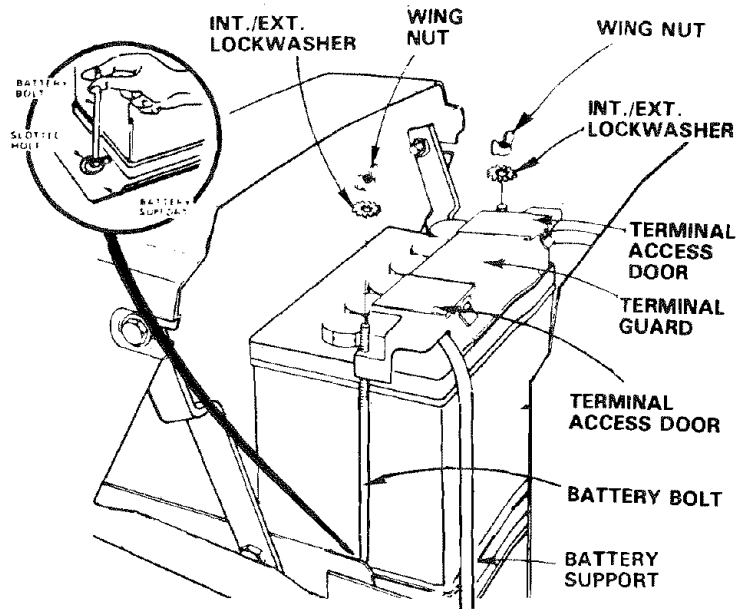

FIGURE 6
- d. Connect **RED** battery cable to positive (+) battery terminal with hex bolt, flat washer, lockwasher and hex nut (shown full size on page 6) found in bag of parts (Fig. 6). Tighten securely with two 7/16" wrenches.
- e. Connect **BLACK** ground cable to negative (-) battery terminal with remaining hex bolt, flat washer, lockwasher and hex nut (shown full size on page 6) found in bag of parts (Fig. 6). Tighten securely.
- f. Using the square hole on one side of the battery support (Fig. 6) insert one battery bolt, head of bolt down. Fasten the battery bolt to the terminal guard using int./ext. lockwasher and wing nut as shown in Fig. 6.
- g. Assemble the remaining battery bolt to other side of battery support and fasten terminal guard to it with remaining int./ext. lockwasher and wing nut. Tighten wing nuts securely by hand (Fig. 6).
NOTE: USE TERMINAL ACCESS DOORS (FIG. 6) FOR: